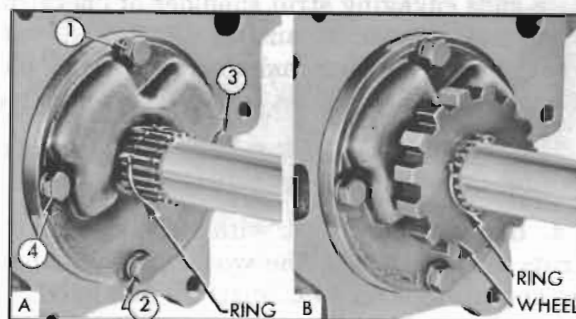

Figure 5-99—Pump Bolt Tightening Sequence—Installation of Ratchet Wheel
shown in figure 5-99 (A), then tighten in same sequence to 25-30 ft. lbs. torque.
1. Install a retaining ring in the forward groove in output shaft, install ratchet wheel, then install retaining ring in rearward groove in output shaft. See Figure 5-99.